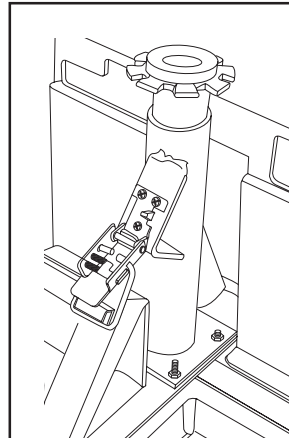

Figure 18A. Toggle Latch (Unlatched)
5. Latch the toggle latch. See figure 18A.